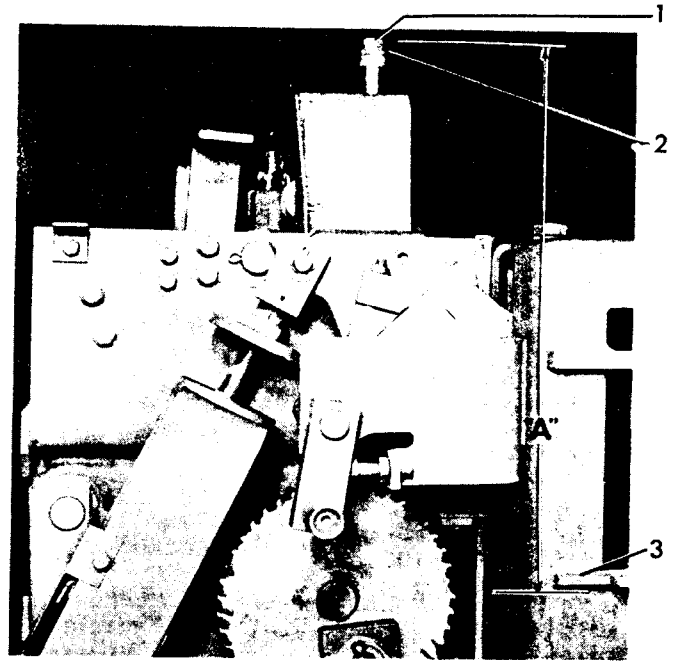

Figure 14. (8034464) Plunger Interlock
Refer to Figure 14. With the breaker in the closed position, the vertical distance "A" from the top of the plunger bolt (1) to the bottom of the breaker lifting rail (3) should be $11-7/32"$ to $11-11/32"$. To change this adjustment add or remove washers (2).